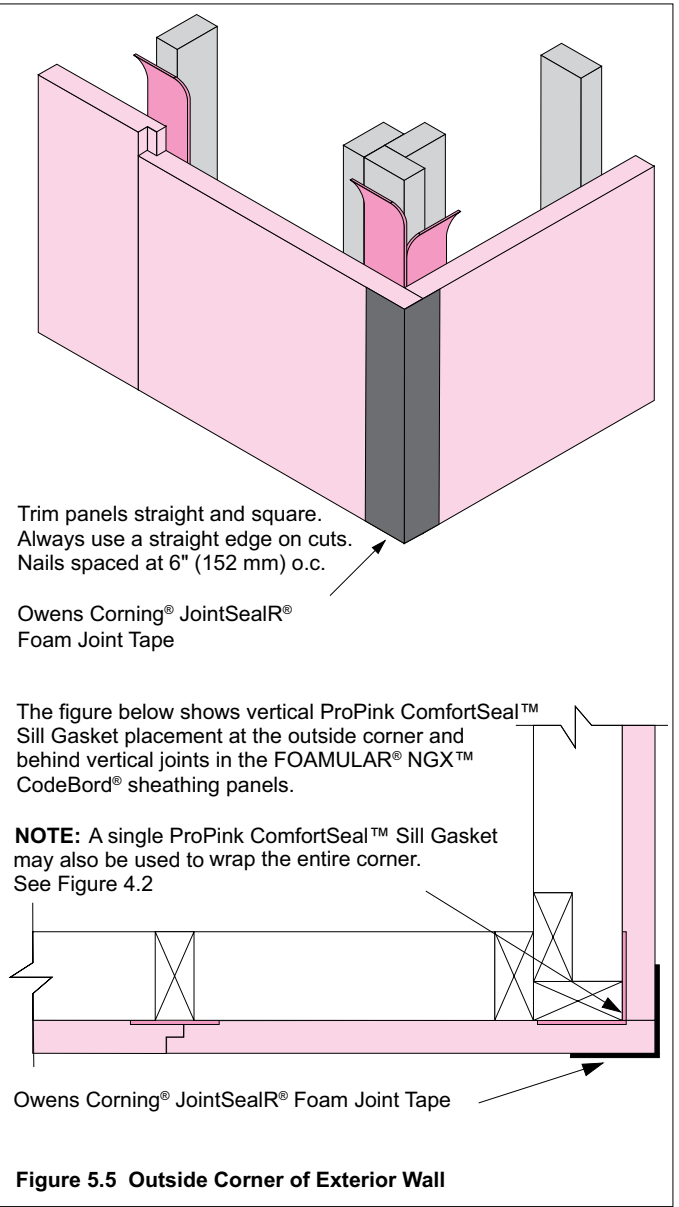

Figure 5.5 Outside Corner of Exterior Wall
2. Walls are sheathed normally as part of the second alternative. The extension left off and sheathed after the wall is tilted up. This second approach may require the use of ladders or scaffolding to add the final corner panel. See Figure 5.5.